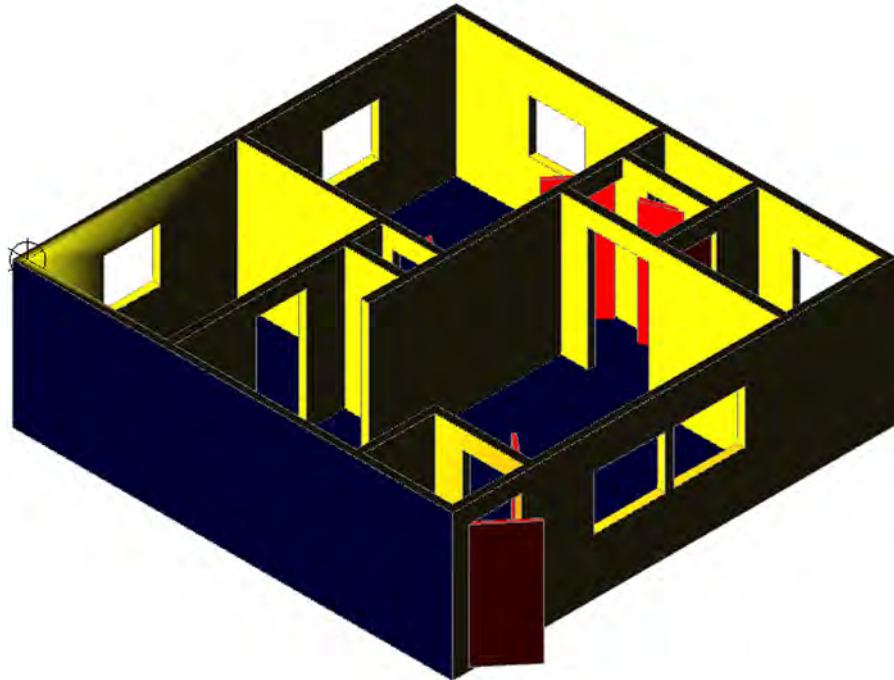
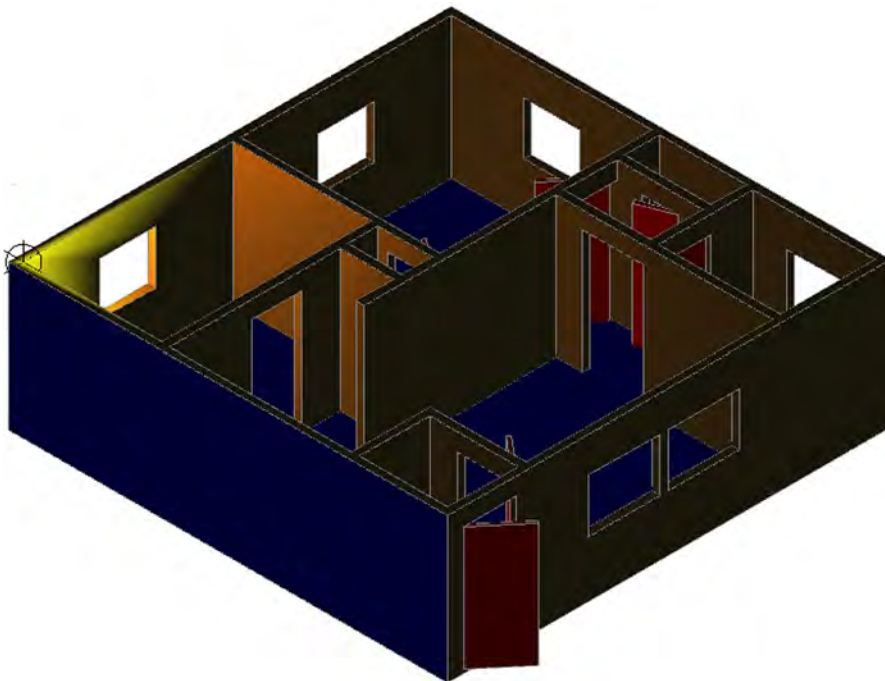

FIGURE 30.3
FIGURE 30.4
The result is a spotlight located at an upper left corner of the 3D model (notice the circular marker), shining yellow light on the entire structure (Figure 30.3). Note that the light goes through the walls, illuminating everything equally, as if the walls were not even there. We change this later with the LIGHTINGUNITS system variable. You can locate as many point lights as you want; we only do one example of this.
- **Photometry:** This option depends on the LIGHTINGUNITS system variable, to be set to 1 or 2 (International or American with Photometry enabled), not 0, which is Generic lighting, as seen in Figure 30.3. Once that is set, photometry refers to the perceived power emitted by a light source. The result of setting that system variable is that a more realistic light gradient is shown, where the intensity fades as you move farther from the lamp source, as seen in Figure 30.4. The three options under Photometry are